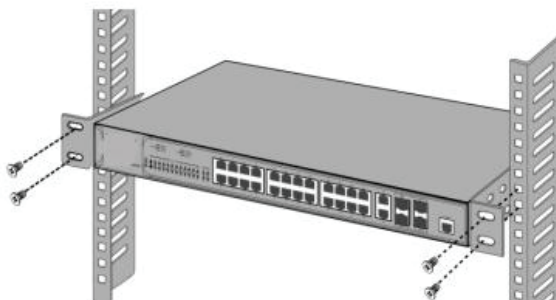

Figure 5
Step 2: As shown in Figure 5, put the switch in the appropriate position of the standard cabinet, and then fix it on the rack.